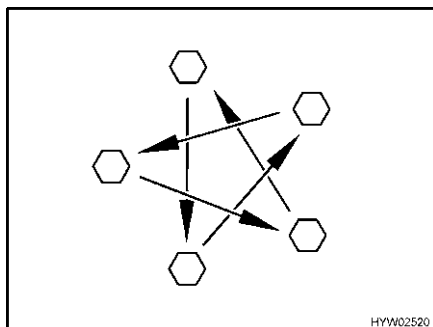

Fig. 273 Tighten the wheel nuts or wheel bolts cross-wise
- Check regularly that the wheel nuts or wheel bolts are firmly seated. Re-tighten the wheel nuts or wheel bolts of a changed wheel after 50 km (30 miles) (Fig. 273). See section 13.5.2 for tightening torque.
- When using new or newly painted wheel rims, re-tighten the wheel nuts or wheel bolts once again after approx. 1,000 to 5,000 km (600 miles to 3,000 miles) (Fig. 273).
- ▷ Tighten the wheel nuts or wheel bolts cross-wise (Fig. 273).